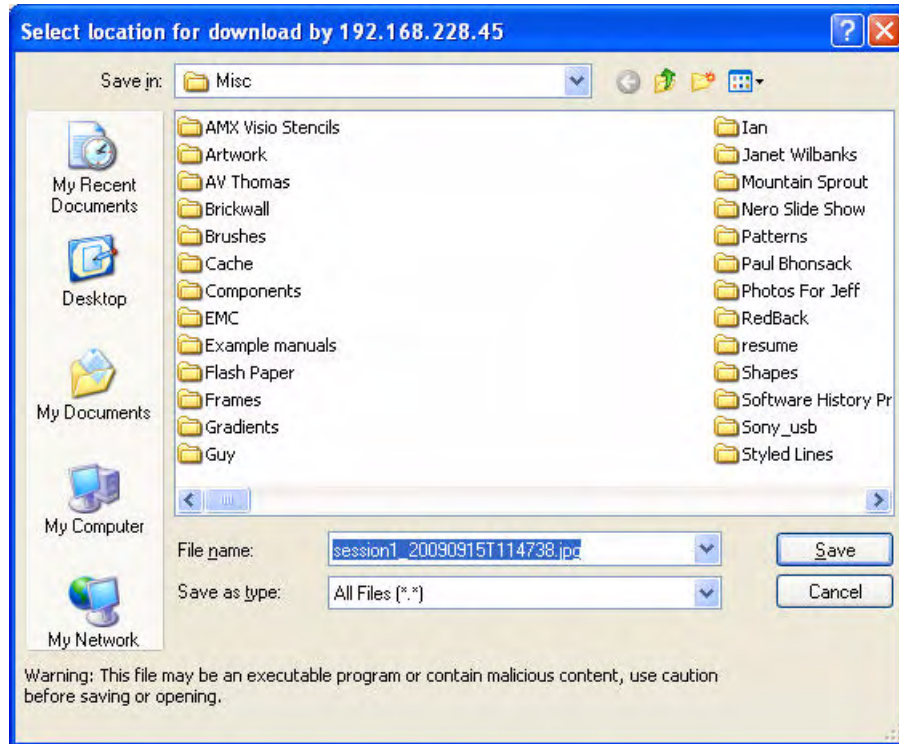

FIG. 127 Select Location for Download dialog
4. The application prompts you to specify a target directory for the image (.JPG) file (FIG. 127):